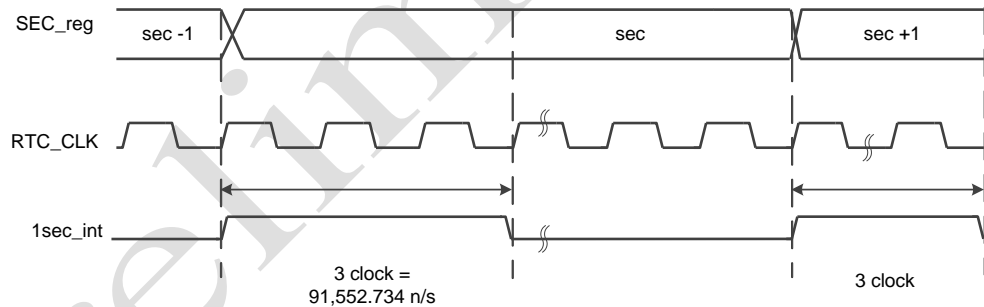
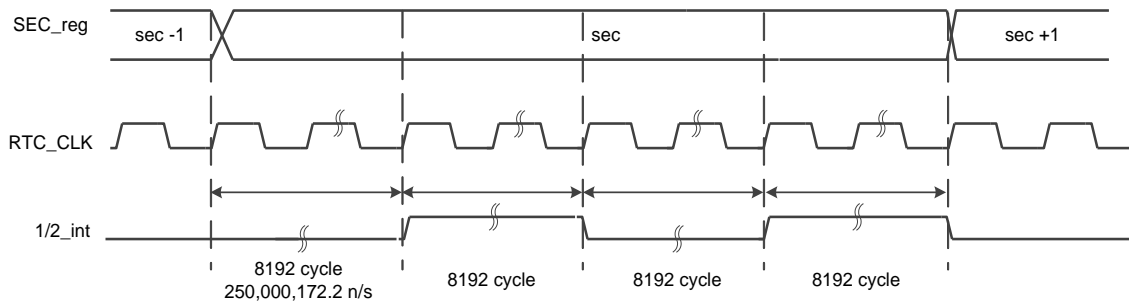
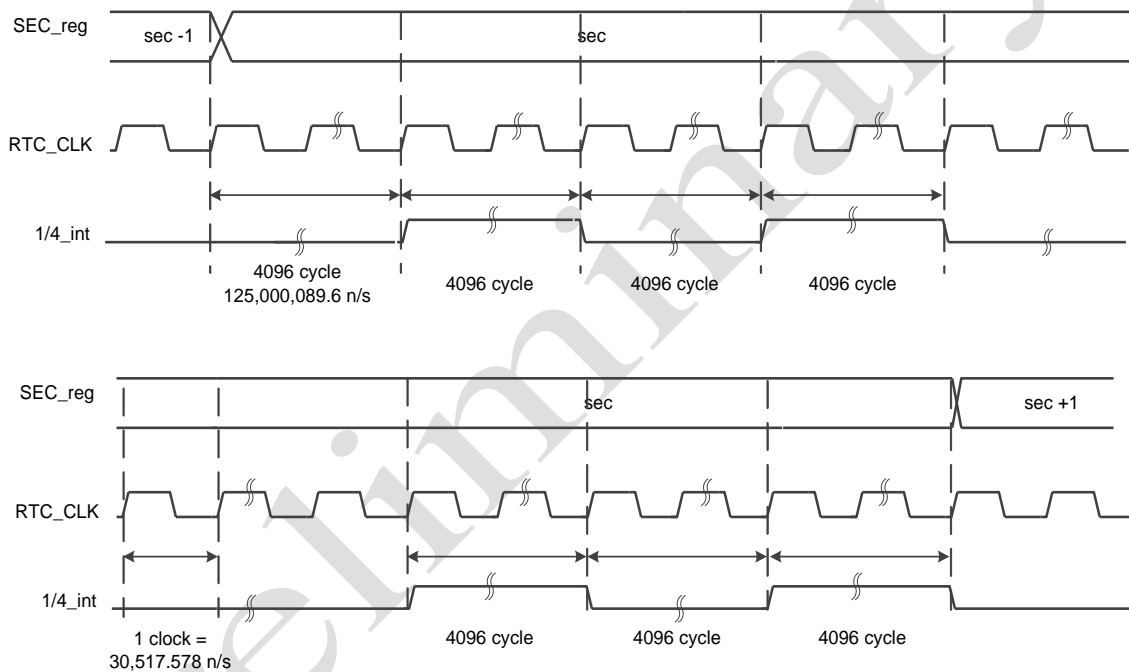

Figure 12-4 1sec Interrupt Operation
Figure 12-5 1/2 Interrupt Operation
Figure 12-6 1/4 Interrupt Operation
- \* Periodical interrupt occur 1cycle interrupt, except 1/4 and 1/2 interrupt. (Refer to Figure 12-4, Figure 12-5, Figure 12-6)